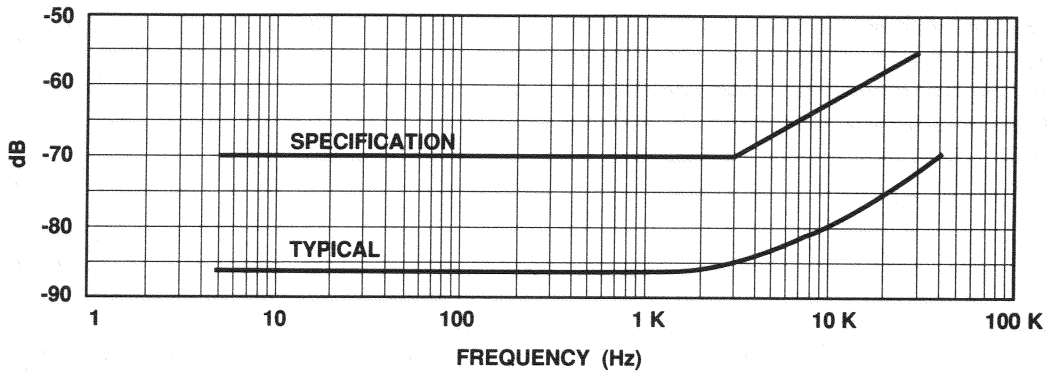

Fig. 8.5 Typical CMR Through Balanced Input Module
**Common-Mode Rejection:** 70 dB from 5 Hz-20 kHz; 55 dB at 20 kHz. See Figure 8.5.